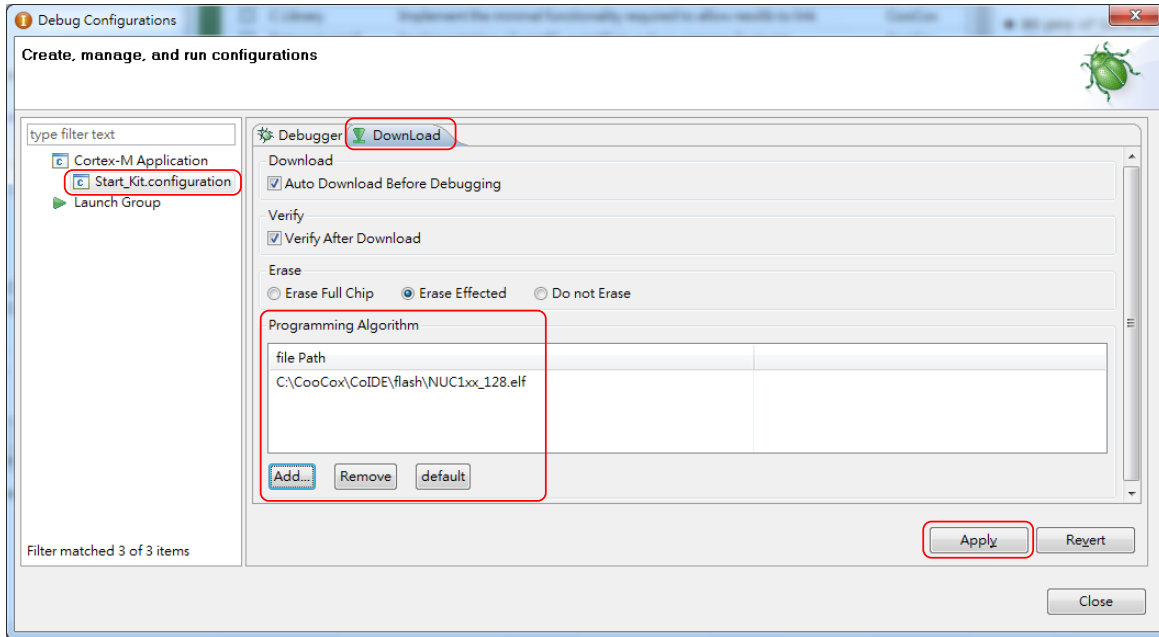

Figure 4-21 CooCox CoIDE Programming Settings
Step 4: In the **Download** tab of the *Debug Configurations* form (through invoking **Debug** → **Debug Configurations**), select the **Auto Download Before Debugging** or **Verify After Download** option to proceed with a specific programming, and set the Programming Algorithm path as "`C:\CooCox\CoIDE\flash\NUC1xx_128.elf`", as shown in Figure 4-21.
Step 6: At last, click **Apply** to save the settings, as shown in Figure 4-21.